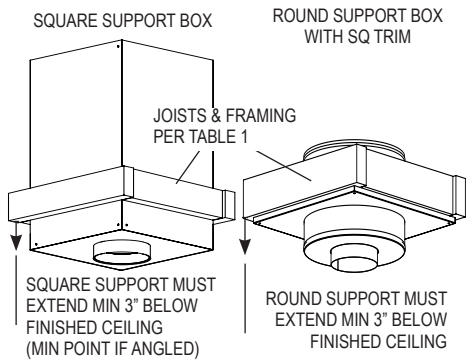

Figure 7
mark this center point on the ceiling. Refer to **Table 1** for specific framing and clearance dimensions. Mark appropriate cutting lines around the center point. Cut a square hole in the ceiling for the Support Box. Frame a level, square opening centered over the hole which you have cut. (**Fig.7 and 8**).
3. **Install Support Box:** For installation into a flat ceiling, there is the option of the Round Support Box (Round or Square Trim Collar), Flat Ceiling Support Box, Square Ceiling Support Box, or Reduced Clearance Support Box. The Flat Ceiling Support Box is primarily used for Oil Appliances and comes unpainted. For the Round support box, the trim mounts flush to the ceiling with the bottom protruding a min of 3" below the ceiling (**Fig.7**). For the Square support box, the square face must protrude a min of 3" below the ceiling (**Fig.7**). Level the Support Box and secure it to the framing using at least three 8-penny nails per side (min. of 12 total). Alternatively, you may use 1-1/2" #8 wood screws (min. of 12 total), instead of nails. After the Support Box is mounted, secure the Trim Collar (round or square) to the framing members using the (4) 1" long, round-head wood screws provided